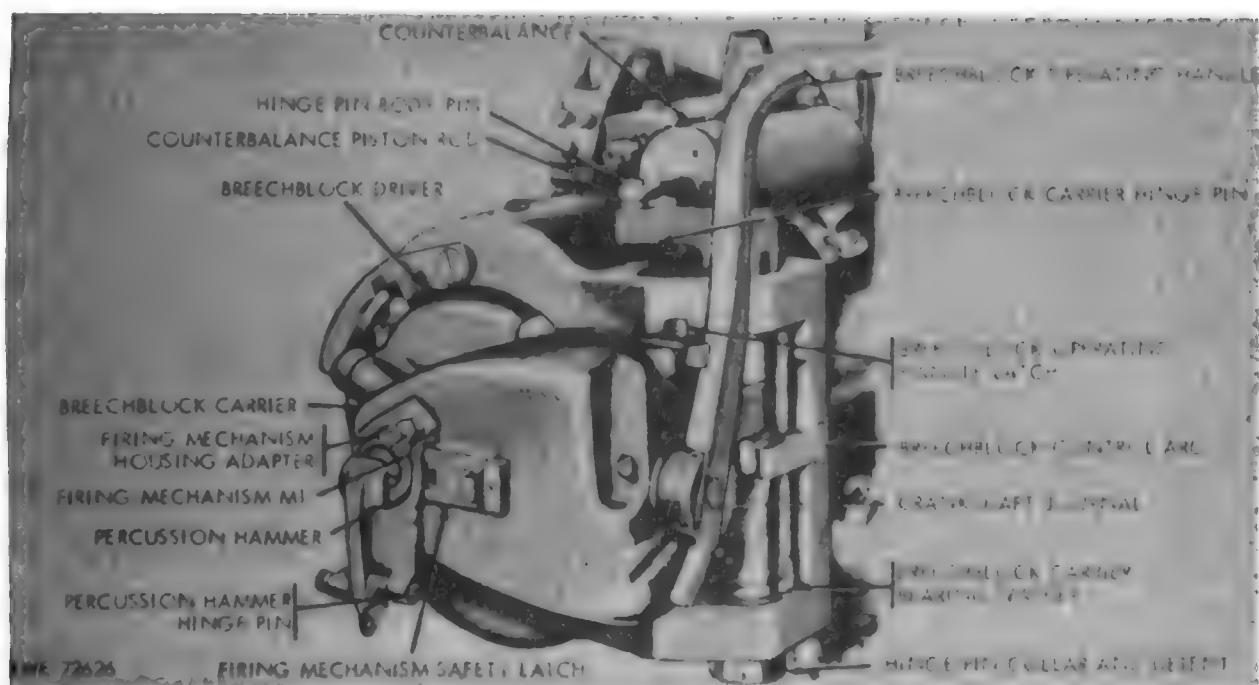

Figure 100. Breech mechanism—right rear view.
b. Breechblock Carrier Hinge Pin. The breechblock carrier hinge pin (fig. 100) hinges the breechblock carrier and attached parts to the breech ring. The hinge pin body pin, extending from the top of the hinge pin, is provided for the attachment of the counterbalance piston rod. The hinge pin is retained in the breech ring by the hinge pin collar and detent. The breechblock carrier bearing washer provides supporting bearing surface for the hinge pin and breechblock carrier.
c. Breechblock Operating Handle Latch. The breechblock operating handle latch (fig. 100) latches the breechblock operating handle in fully raised position, thereby locking the operating handle in closed position. The latch is spring-
e. Percussion Mechanism. The percussion mechanism consists of the percussion hammer (fig. 100), the percussion hammer hinge pin, and the percussion hammer locking pin knob (fig. 23). These are mounted on the lower arm of the breechblock carrier adapter. The lower portion of the percussion hammer is drilled for the attachment of the lanyard (fig. 87). The percussion hammer will not strike the firing pin in the firing mechanism unless the firing mechanism has been screwed fully into its housing (para 48b).
f. Firing Mechanism Safety Latch. The firing mechanism safety latch (fig. 100) prevents the breech from being opened before the firing mechanism M1 has been removed. It also prevents the firing mechanism from being seated before the breechblock has been returned to the closed and locked position.
mits the breechblock to be locked or unlocked by being rotated approximately one-tenth of a revolution. The breechblock has a central stepped bore from front to rear. The forward portion of this bore fits the obturator spindle. The central portion of the bore contains the breechblock bearing bushing, which forms the bearing surface on which the breechblock is carried on the hub of the breechblock carrier (figs. 100 and 101). The rear portion of the bore contains three wide splines which mate with three similar splines of the breechblock driver. They permit the breechblock to move backward and forward on the driver as the breechblock is being unlocked and locked, but constrain the breechblock to turn with the driver.
i. Breechblock Carrier. The breechblock carrier (fig. 103) supports the breechblock and its actuating parts. The right end of the carrier is hinged on the breechblock carrier hinge pin (fig. 100). A cylindrical hub extends from the front of the carrier. The front surface of this hub provides a bearing surface for the breechblock while the surface forms a bearing surface for the breechblock driver. The forward end of the rear section is threaded to receive the breechblock driver retaining ring. A bore through the hub of the breechblock carrier receives the obturator spindle sleeve, obturator spindle (fig. 101), gas-check pad compressing spring, firing mechanism housing
and forth in its splined bearing on the breechblock driver. The crankshaft journal (fig. 100) supports the breechblock operating handle crankshaft and fits the bore in the right side of the carrier. One end is slotted at right angles to the crankshaft to receive the breech operating handle. The breechblock driver rotates on the hub of the breechblock carrier and is retained on the hub by the breechblock driver retaining ring and screw. The forward portion of the driver extends into the recess in the rear of the breechblock and is splined to the breechblock. The breechblock rotating roller is attached to the breechblock driver by the breechblock rotating roller pin. The breechblock control arc is mounted in a slot in